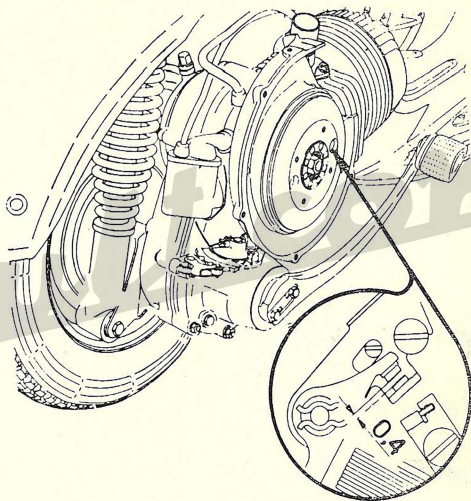

Fig. 21 - Breaker points
6) - Clean and adjust the breaker points of the flywheel magneto (see Fig. 21) to 0.4 mm. gap (0.015 in.).